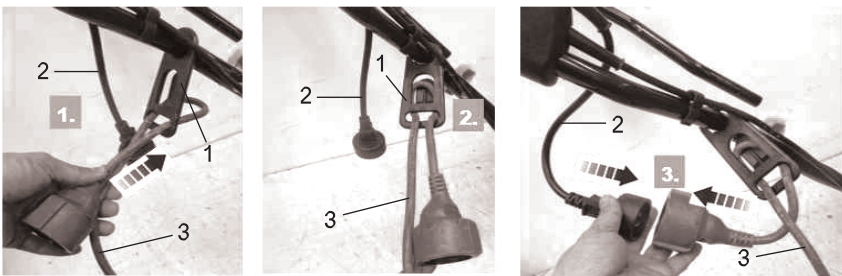

Fig. 7
1. Double the extension cord back, about 12" (30cm) from the end and lead the loop through the cord retainer (1) (Fig. 7, step 1) and hang the loop over the hook (Fig. 7, step 2). Gently tug on the cord to ensure that it is firmly secured.
2. Connect the power cord (2) to the socket of the extension cord (3) (Fig. 7, step 3).